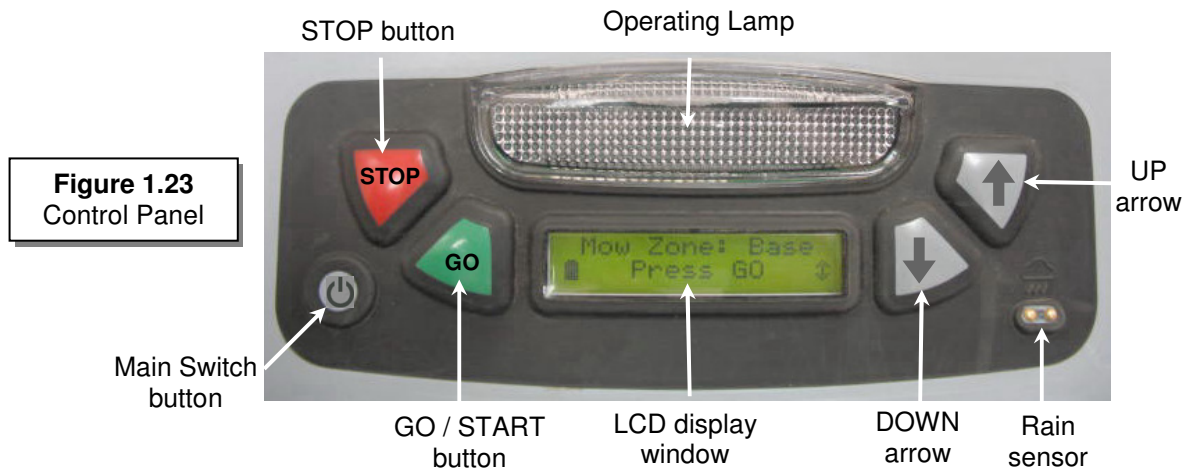

Figure 1.22 -
- Lift the Bumper Cover and insert the fuse. The fuse can be inserted in either direction. See figure 1.22